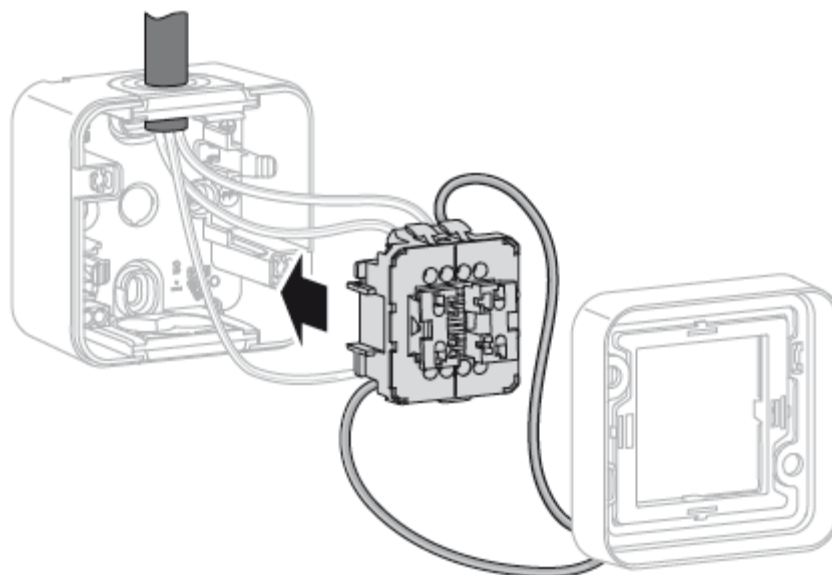

Figure 7
- Reinsert the insert (4) in the housing bottom part until it locks into place on the mountings (7) (Figure 7).